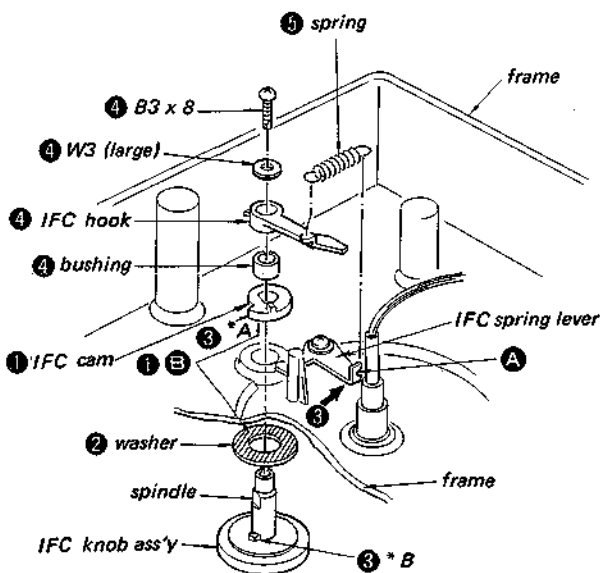

Fig. 2-10
- 1 Smear the shaded portion (E) of the washer and the IFC cam with grease.
- 3 Set the marked point (*A) of the IFC cam as shown in Fig. 2-10. Install it through the frame and set it with the IFC cam. Be sure that the two marked points (*A & *B) coincides. (Place the IFC spring lever in the direction of the arrow when performing this installation.)